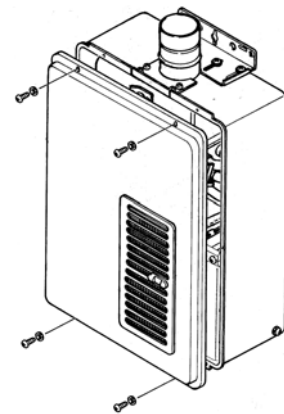

fig.1.
2. Remove the front cover from the Appliance (4 screws) as shown in fig. 1.
2. Remove the front cover from the Appliance (4 screws) as shown in fig.1.